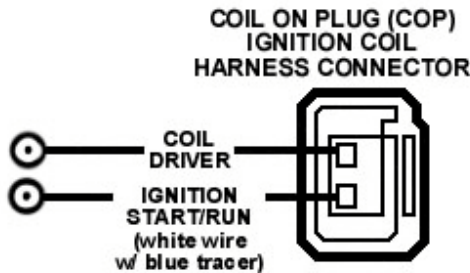

Figure 23—Coil On Plug—(1999 ½ & up)
4. **COIL ON PLUG**—The white wire of the RPM window switch needs to be connected to the negative side (coil driver) of one ignition coil. Choose the coil that best fits your wiring harness layout. Each ignition coil is supplied with a two-wire harness. Identify the color of the wires on at least 3 coils. One wire of the harness to each coil will have the same color from coil to coil. This is the ignition start/run wire. **Do not use this wire.** Use the other wire, which is the negative lead. The negative wire is the smaller gauge wire and color-coded differently for each coil to differentiate their cylinder location and the firing order of the engine. Any cylinder coil may be used, depending on the desired mounting location of the window switch. Use one of the T-tap terminals included and connect it to the negative coil wire. See Figure 23.